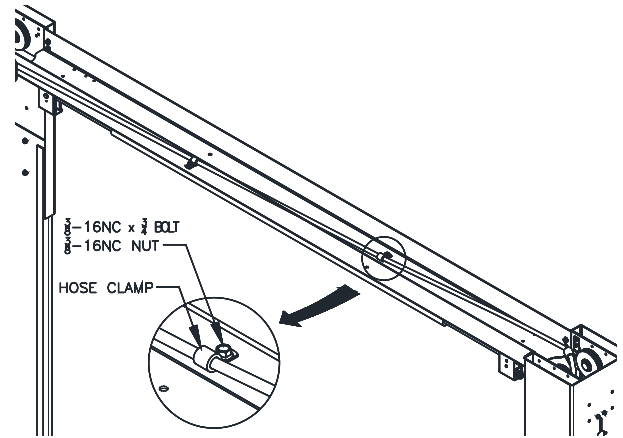

Fig. 11b – Idler Hose Clamps
- 24) Install the hose clamps to the idler hose and fasten to the overhead with the supplied hardware **Fig.11b**.